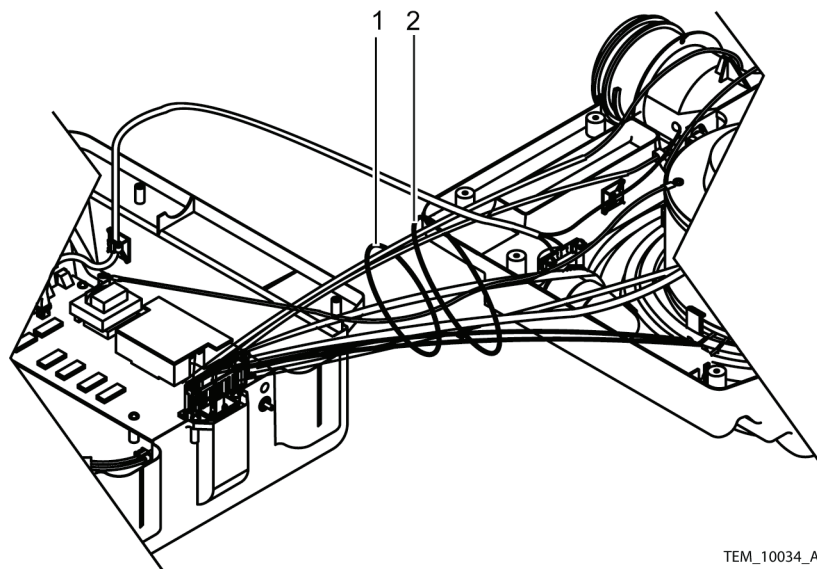

Figure 81. Cable Harness Bundle Ties
49. Install the cable harness bundle ties. See Figure 81, items 1 and 2.